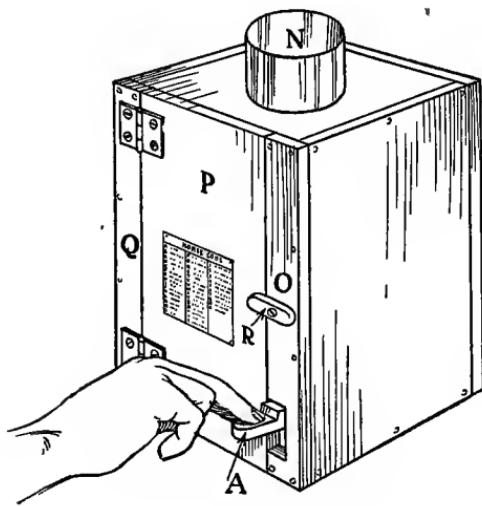

FIG. 528.—The Signal Lantern.
This will be the most convenient size. Figure 528 shows the completed piece of apparatus, with the key that controls the lengths of the signal flashes (A) in operation,
cover, with a carpet tack driven through its center from the bottom (*L*, Figs. 529 and 531), to the bottom of the lantern box as a *candle-holder*. A large hole in the top of the box will carry off the heat from the candle (*M*, Fig. 530), and it is best to fasten a can, having both ends removed, in this hole for a *chimney* (*N*, Figs. 528 and 529).
**Make the Back of the Lantern Box** out of three pieces (*O*, *P*, and *Q*, Fig. 528). Cut a notch in the edge of strip *O* in the proper place, and of the right size, for the lever stick to work in. Screw the wooden *button R* to strip *O* as a means for locking the door.
and paste this to the back of the lantern box, as shown in Fig. 528, so you will have it before you for reference when operating the light.